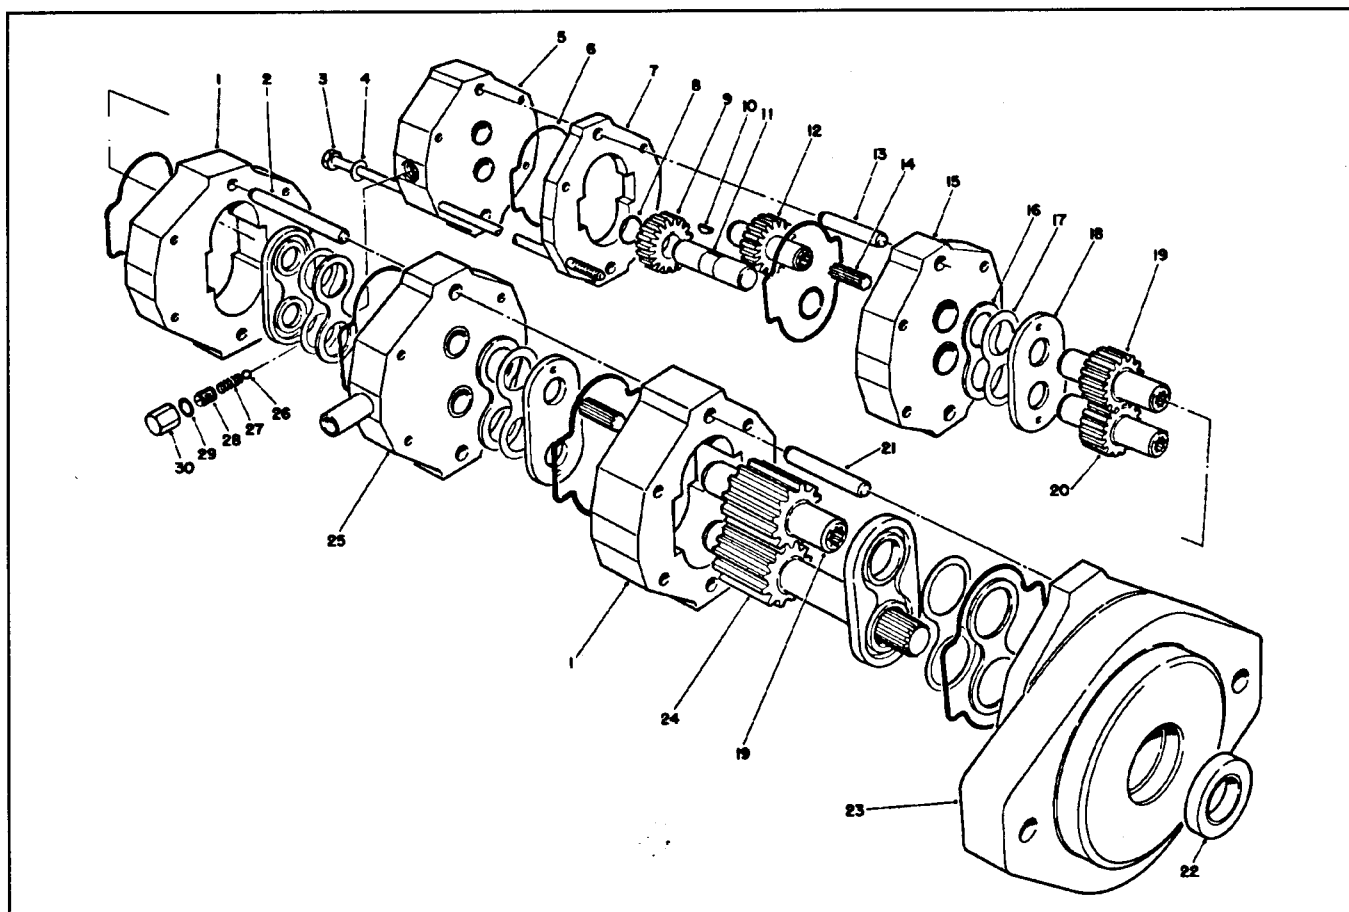

Figure 93
1. Remove cap (Fig. 93, Item 30). Remove valve adjuster (Item 28), spring (Item 27), and ball (Item 26).